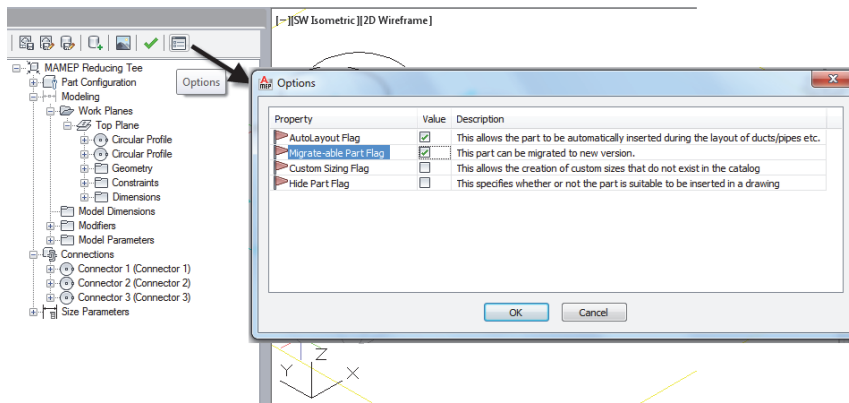

FIGURE 11.23
33. Check the AutoLayout flag and the Migrate-able Part check boxes (see Figure 11.23)